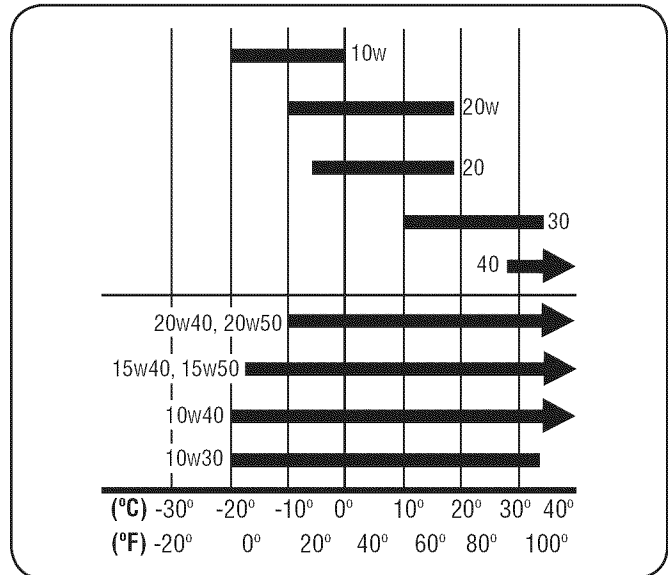

Fig. 6-3
12. Fill with the recommended Oil, Fig. 6-3.